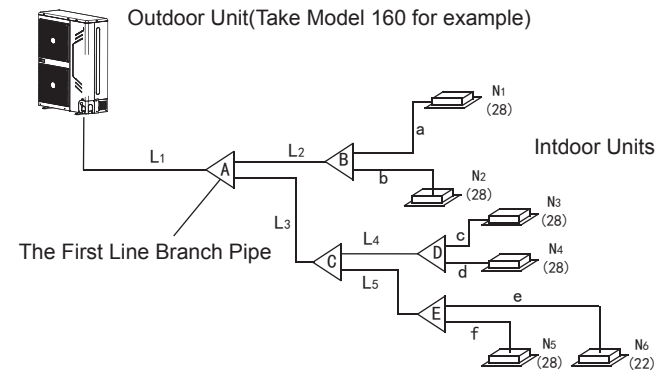
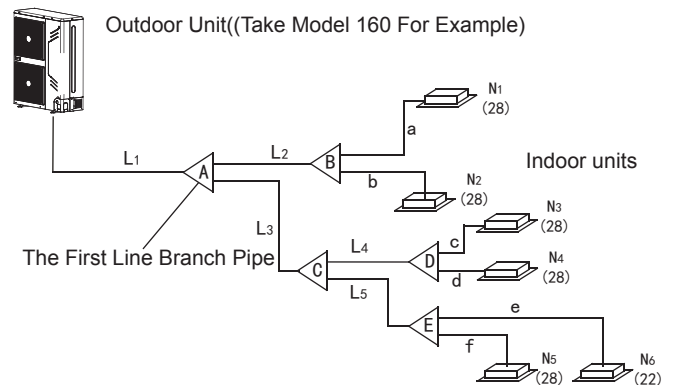
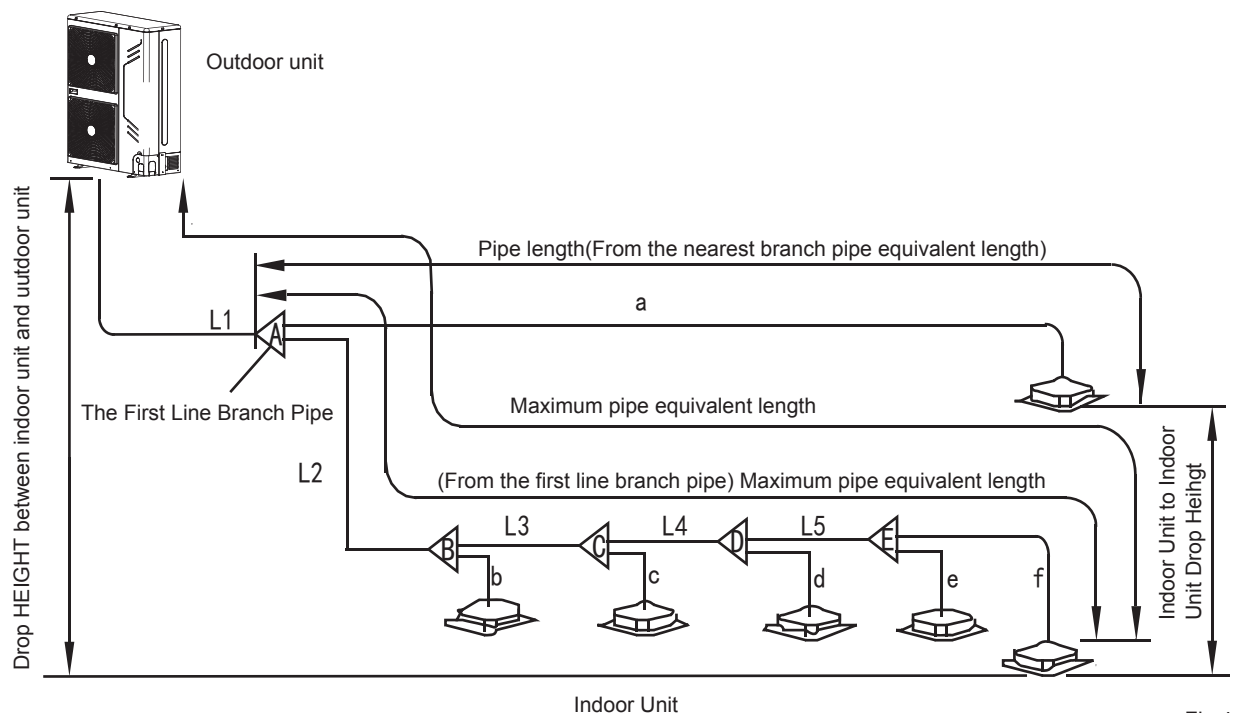

Fig. 4-5
Fig.4-6
Fig.4-7
- 2) Example 1: In the Fig.4-5, The downstream inner units of the L2, and its total capacity is $28 \times 2 = 56$, refers to the Table 4.4, the air/liquid side of L2 is: $\Phi 15.9/\Phi 9.5$.
- Main pipe (Please refer to Fig.4-5 and Fig.4-7)
In Fig.4-6, the main pipe L1, the outdoor unit capacity is 16kW, and check the Fig.4-7 to get the size of gas pipe/liquid pipe is $\Phi 19.1 / \Phi 9.5$, and also the total equivalent length of liquid side and gas side pipes is $> 90m$, then check the Fig.4-4 to get the size of gas pipe/liquid pipe is $\Phi 22.2 / \Phi 9.5$, and according to the maximum value principle, it should apply the $\Phi 22.2 / \Phi 9.5$.